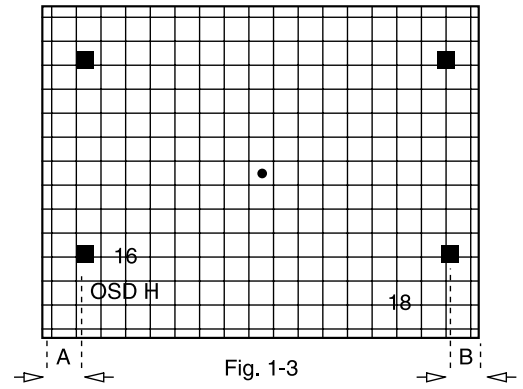

Fig. 1-3
- Use the volume keys on the jig remote controller to adjust each A and B positions on both left and right in the equal distance towards the screen edge in the OSD display. A = B (Fig. 1-3)